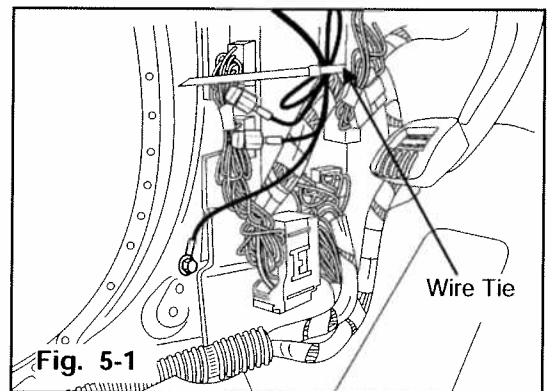

Fig. 5-1
- b) Secure bundled harness wires to factory wire bundle with one (1) tie wrap. (Fig. 5-1)